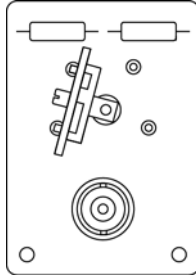

Figure 24 Signal to +Input
- 16 Carefully connect the input of the probe to the test board in the position shown in the Figure 24.